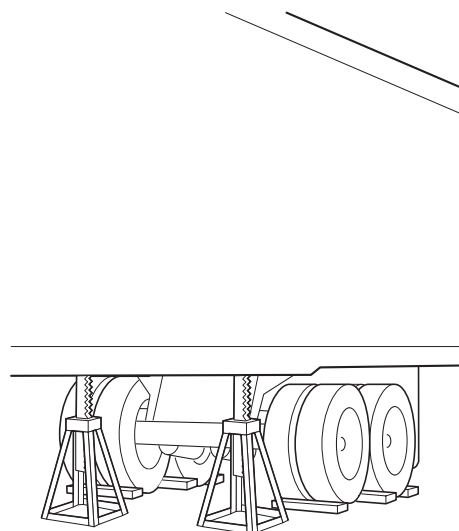

Figure 5. Trailer preparation
1. Block the tires to keep the trailer from moving (figure 5).